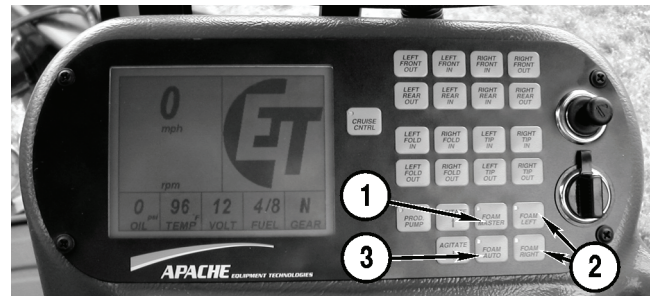

Figure 4-33
To turn on the foam marker, push the foam master button (**Figure 4-33, 1**) on the console.
- Push the foam left button (**Figure 4-33, 2**) to drop foam on the left.
- Push the foam right button (**Figure 4-33, 2**) to drop foam on the right.
To use the Auto Foam feature, turn on the foam master switch (**Figure 4-33, 1**), then turn on the auto foam button (**Figure 4-33, 3**). Foam will drop from whichever side was used last.